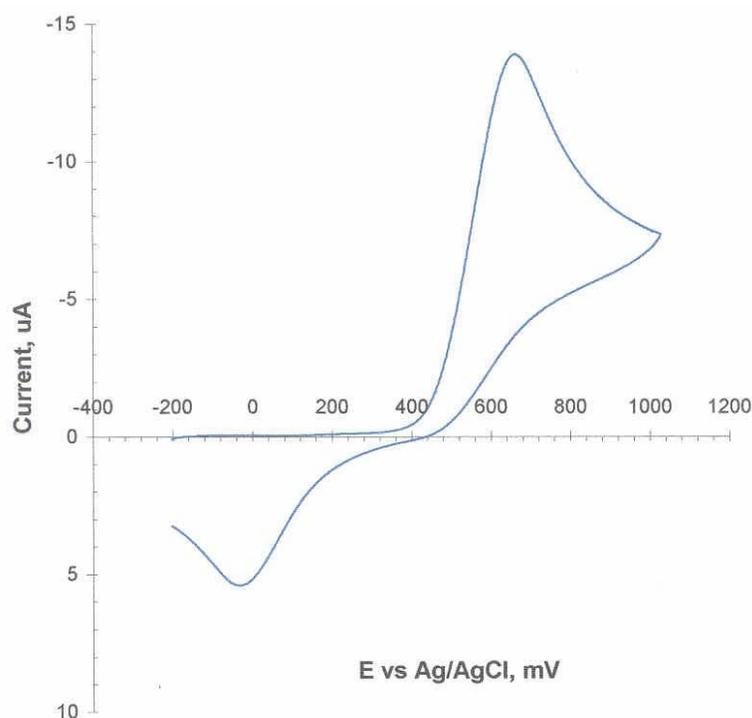

Figure 2. Cyclic Voltammogram of 2 mM APAP in pH 7.0 buffer at a glassy carbon electrode. Scan rate is 100 mV/s.
The initial step is the oxidation of APAP in a pH dependent, two-electron, two-proton step to produce N-acetyl-p-quinoneimine II (NAPQI). A typical cyclic voltammogram (CV) for APAP at pH 7 is seen in Figure 2. The experiment described herein is similar to an online one [ref. 5] and its embedded referrals to the original work by Kissinger and Heineman [6].
4. Set scan rate at 100 mV/s and scan potential range of E_i (initial value) at -200 mV, E_s (switching potential) at 1000 mV, and E_f (final) at -200 mV (see Figure 2).